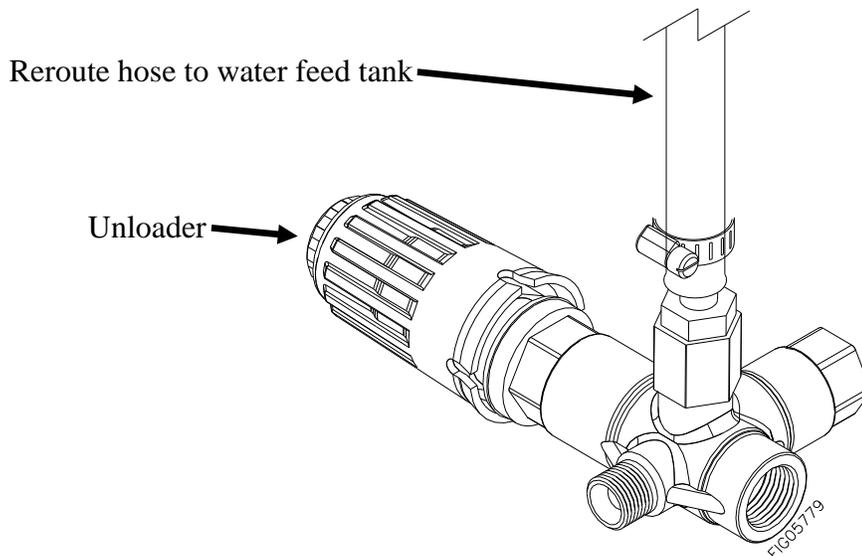

Figure 4b
Step 6. Reroute the easy start valve so it discharges back to the feed tank as shown below in Figure 4b. (This will aid pump priming on initial start-up.)